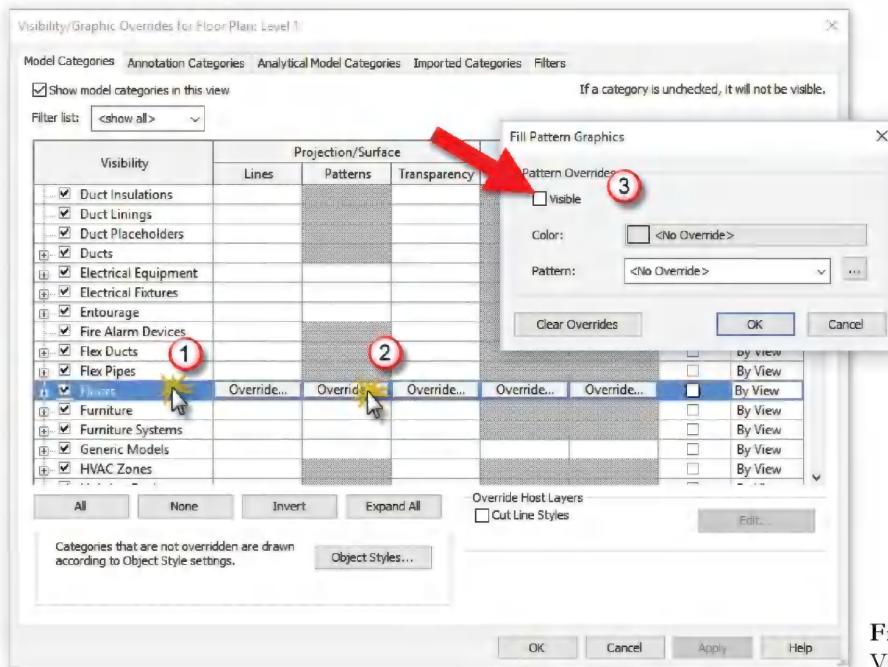

Figure 7-1.5
20. In the *Visibility/Graphic Overrides* dialog, click the “cell” at the intersection of *Floors* (row) and *Surface / Patterns* (column); select **Override** (Figure 7-1.5).